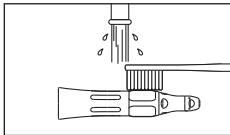

Fig. 10
- 1) Clean the external surfaces of the handpiece with a soft bristled toothbrush for 15 seconds or more. (Fig. 10)